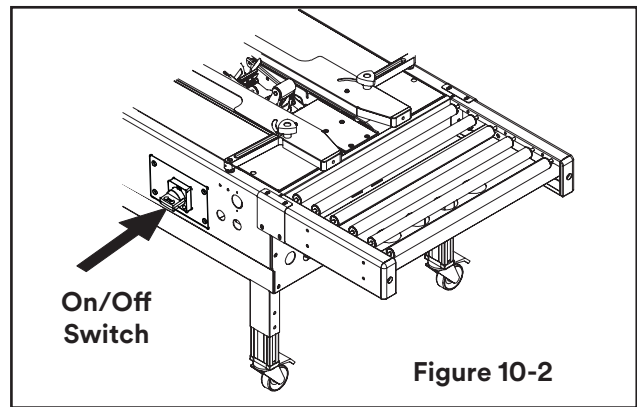

Figure 10-2
Restart machine by turning the On/Off switch to the Off (O) position and then to the On (I) position (Figure 10-2)